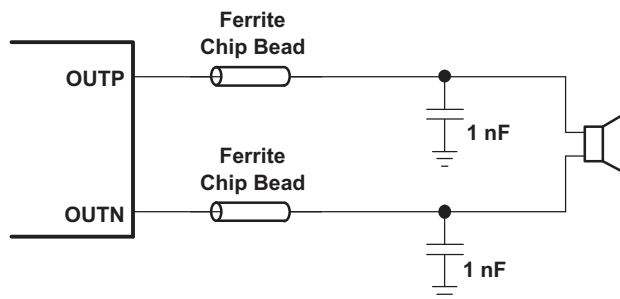

Figure 22. Typical Ferrite Chip Bead Filter (Chip Bead Example: NFZ2MSM series from Murata)
- Output filter—The ferrite EMI filter Figure 22 should be placed as close to the output pins as possible for the best EMI performance. The capacitors used in the ferrite should be grounded to power ground.